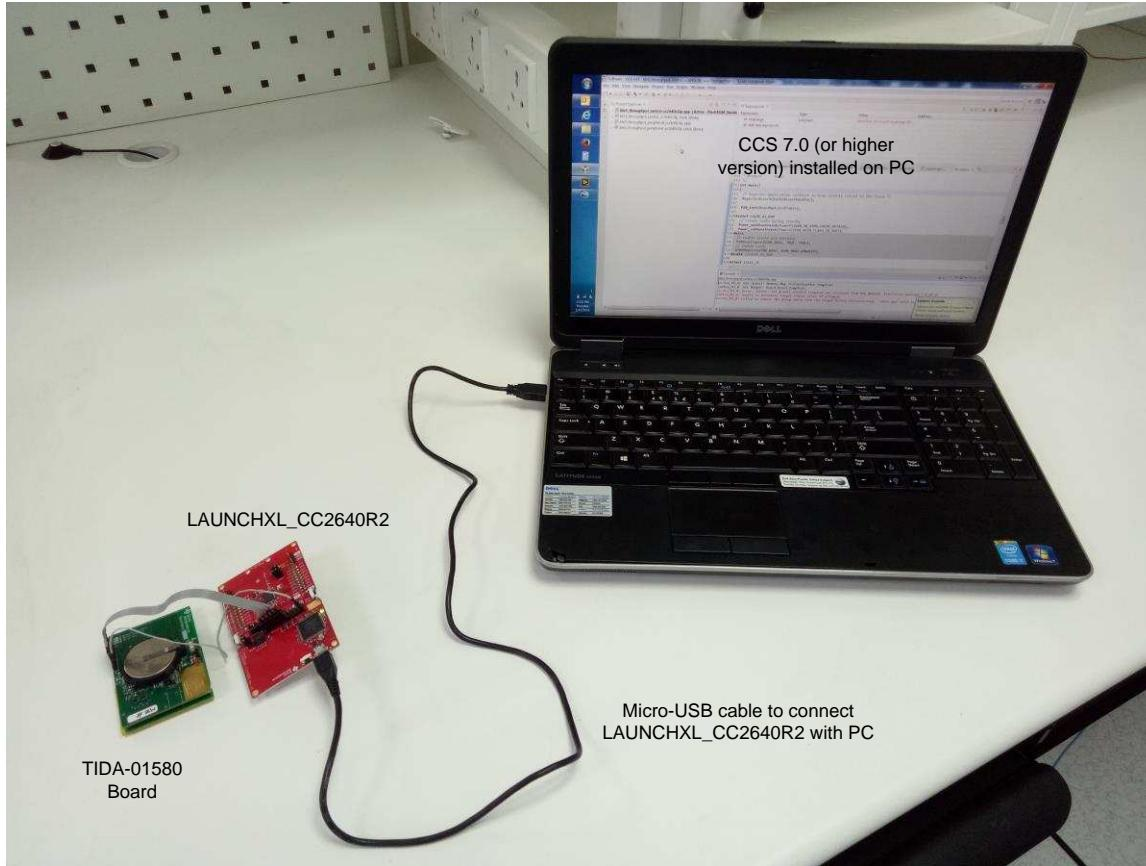
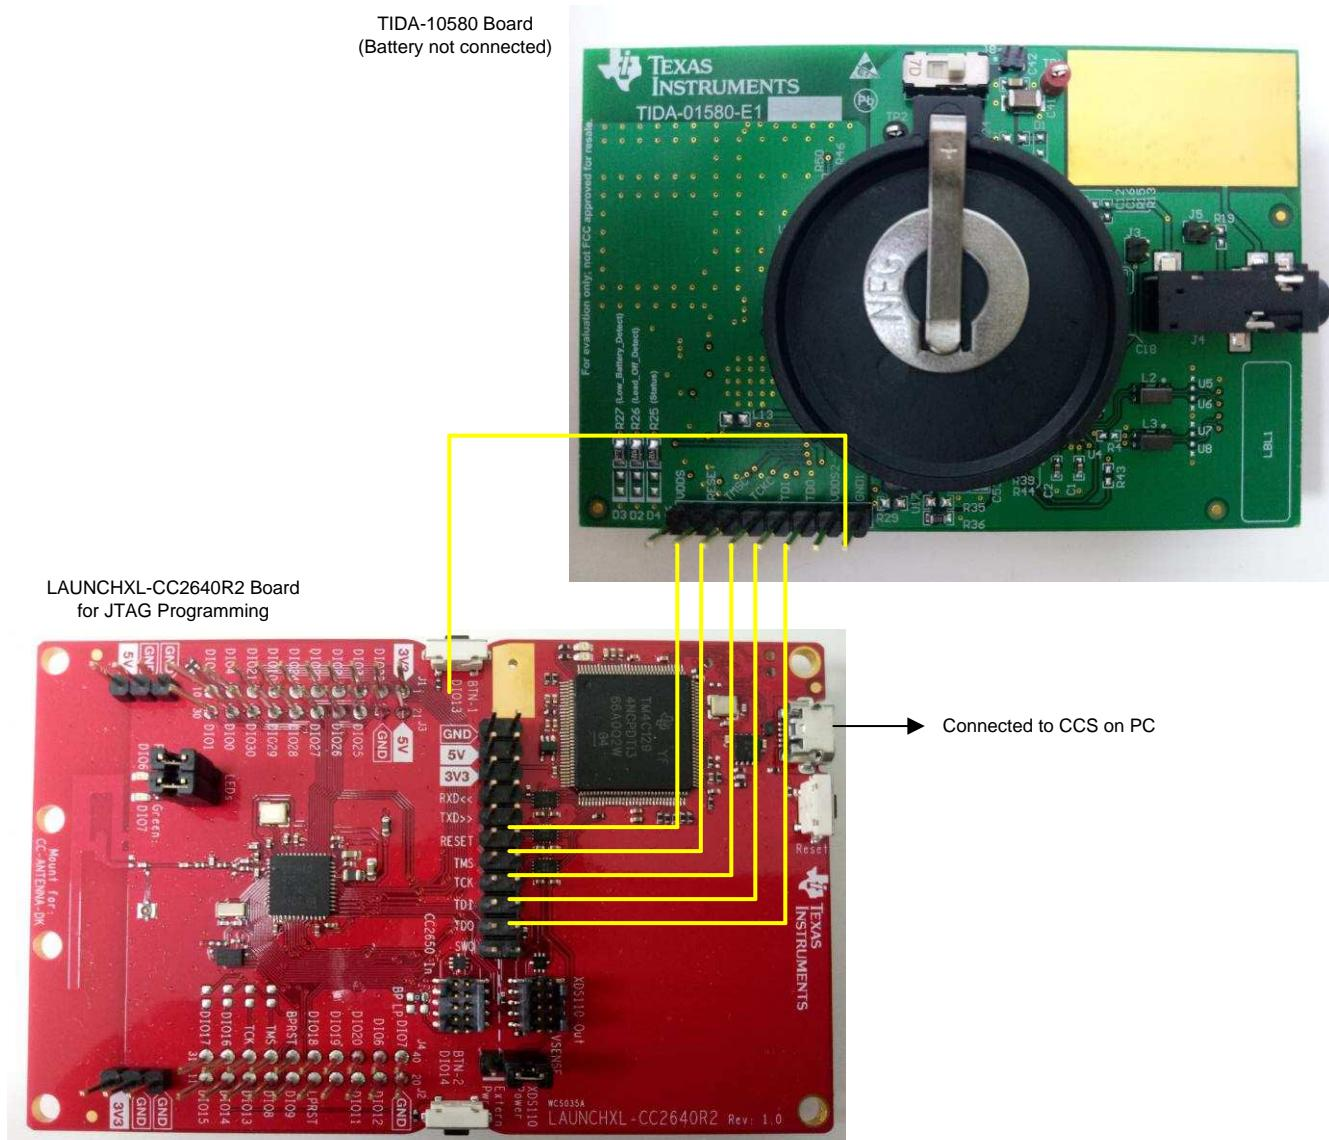

Figure 33. Programming TIDA-01580 Board Using LAUNCHXL-CC2640R2
Figure 34. Connections Between TIDA-01580 Board and LAUNCHXL-CC2640R2
1. Plug in the LAUNCHXL-CC2640R2 board on the USB port of the PC. See the setup in Figure 33 and Figure 34. Table 16 lists the connections between the TIDA-01580 board and the LAUNCHXL-CC2640R2 board.